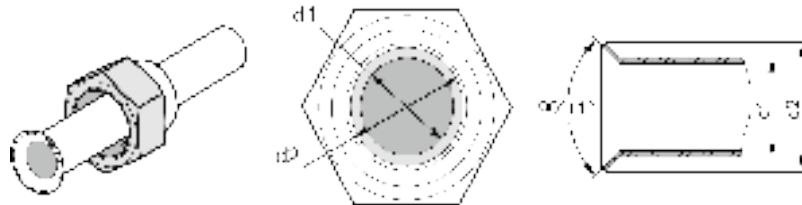

Fig.4.8
- (1) Use pipe cutter to cut the connection pipe in case it is unshaped.
- (2) Keep the pipe downward in case cutting scraps get into the pipe. Clear away the burrs after cutting.
- (3) Remove the flared nut connecting indoor connection pipe and outdoor unit. Then use flaring tool to fix the flared nut into the pipe (as shown in Fig.4.8).
- (4) Check if the flared part is flaring evenly and if there is any crack.